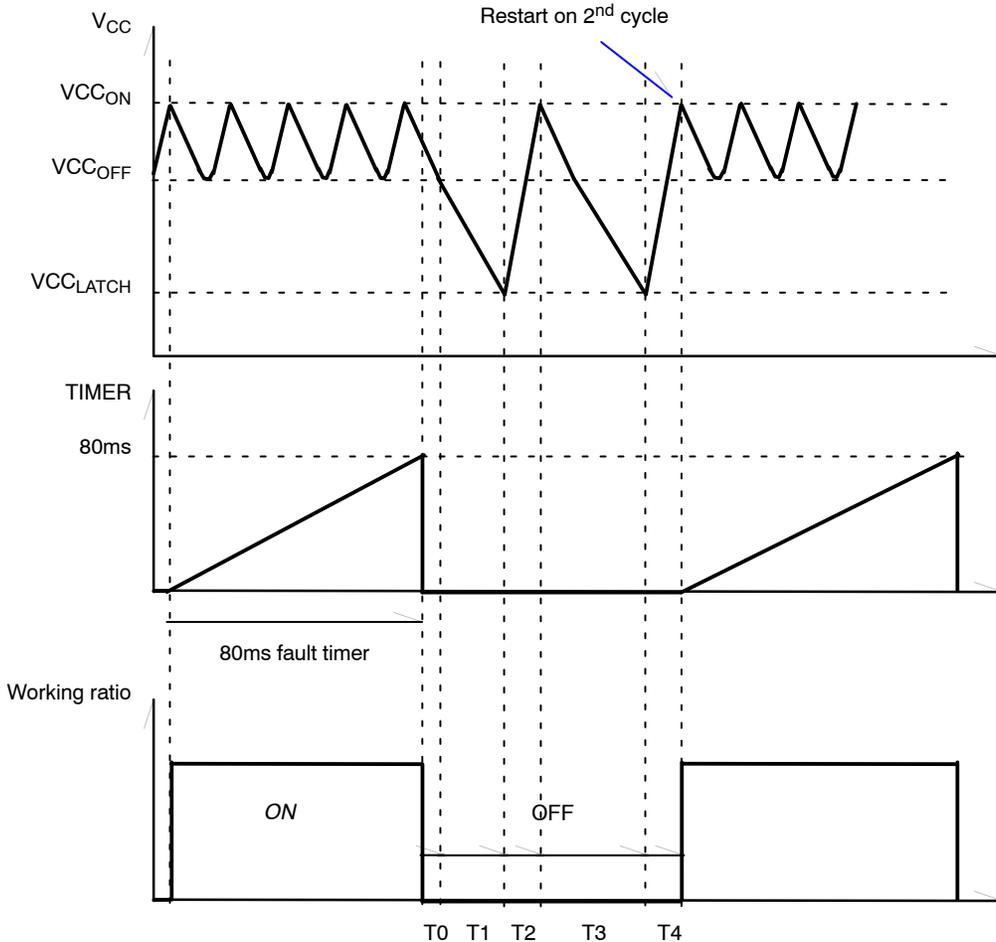

Figure 17. Duty Ratio in Short-Circuit Conditions
- The duty ratio of the protection mode: the working period duration is given by the internal Fault timer, but the “OFF” period is dependent on the V_{CC} capacitor charging and discharging times (see Figure 17).